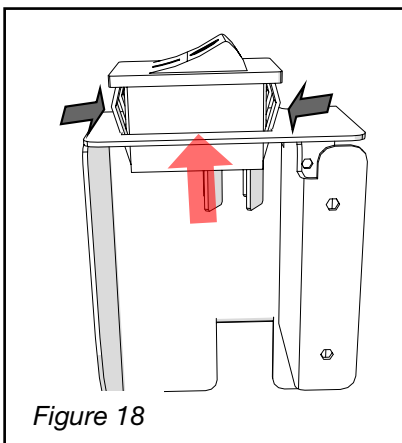

Figure 18
4. Release the power switch from the bracket. (Figure 18)